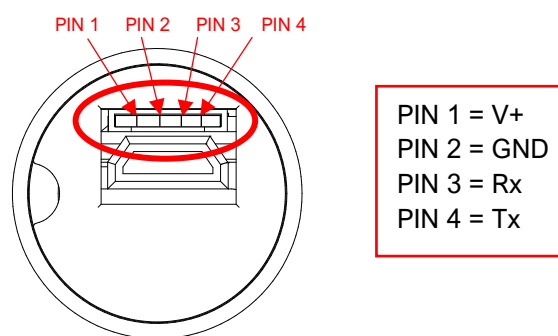

Figure 3: Serial comms pin assignment
Comms port: This is the UART serial communications connection. There are four pins- V+ (1), GND (2), Rx (3) and Tx (4), where pin 1 is on the left when the probe is oriented such that the serial port is above the micro-USB port (see figure 3). Note that pin 1 on the matching plug is marked with a small recessed triangle.